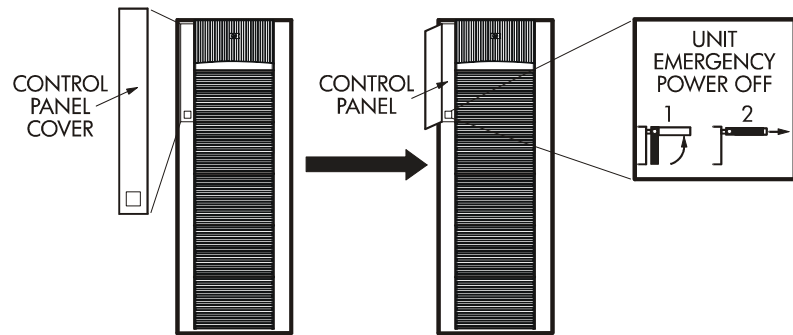

Figure 4. Pulling Unit Emergency Power OFF Switch
A switch is provided on the control panel for an emergency powering off. See Figure 4 on page 37.
2. Pull the emergency power-off switch up and then out towards you as illustrated on the switch. See Figure 4 on page 37.